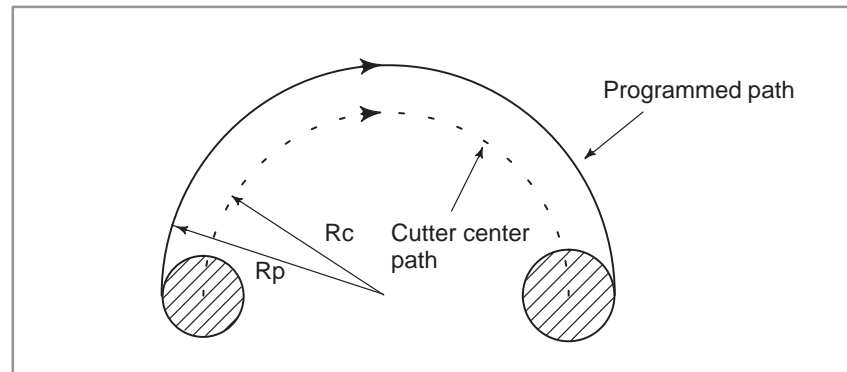

Fig. 5.4.3 Internal circular cutting feedrate change
For internally offset circular cutting, the feedrate on a programmed path is set to a specified feedrate (F) by specifying the circular cutting feedrate with respect to F, as indicated below (Fig. 5.4.3). This function is valid in the cutter compensation mode, regardless of the G62 code.